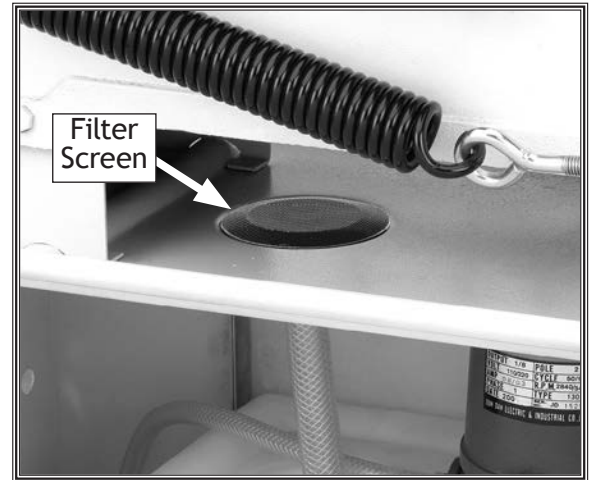

Figure 16. Installed drain screen.
1. Place the filter screen dome-side up as shown in **Figure 16** in the bandsaw catch pan.